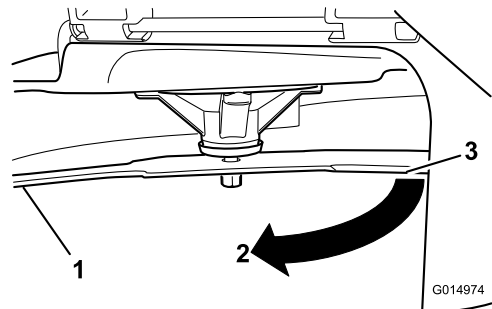

Figure 113
4. Rotate the same blade 180 degrees so that the opposing cutting edge is now in the same position (Figure 113).